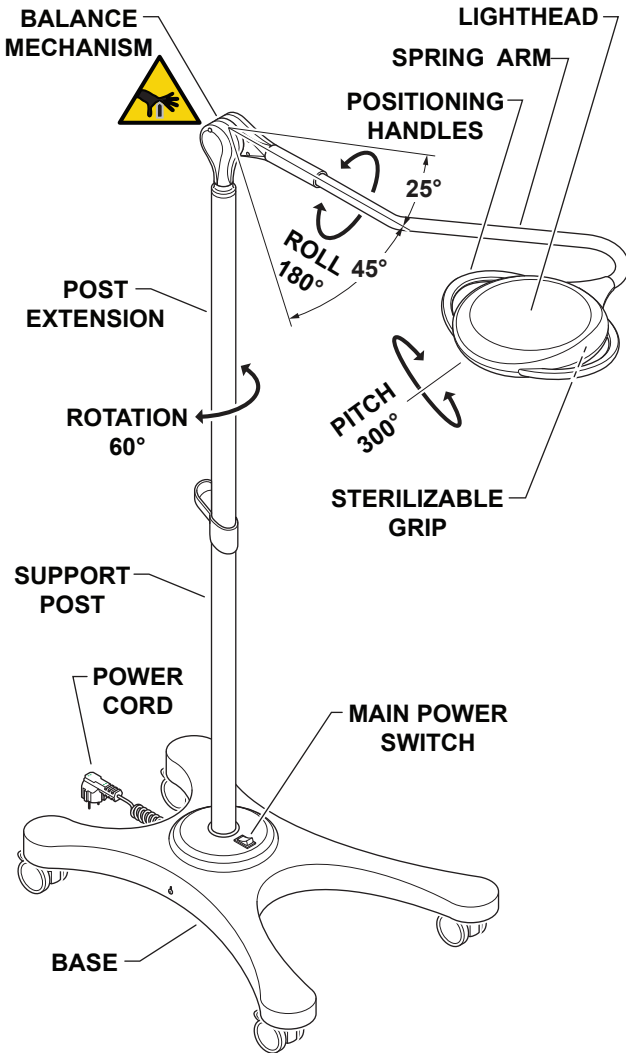

Figure 7. DE12S Mobile Floor Stand Light
This fixture is mounted on a portable base (Figure 7).
- Position the lighthead by grasping the sterilizable grip or positioning handles and moving the lighthead to the desired position (Figure 7).